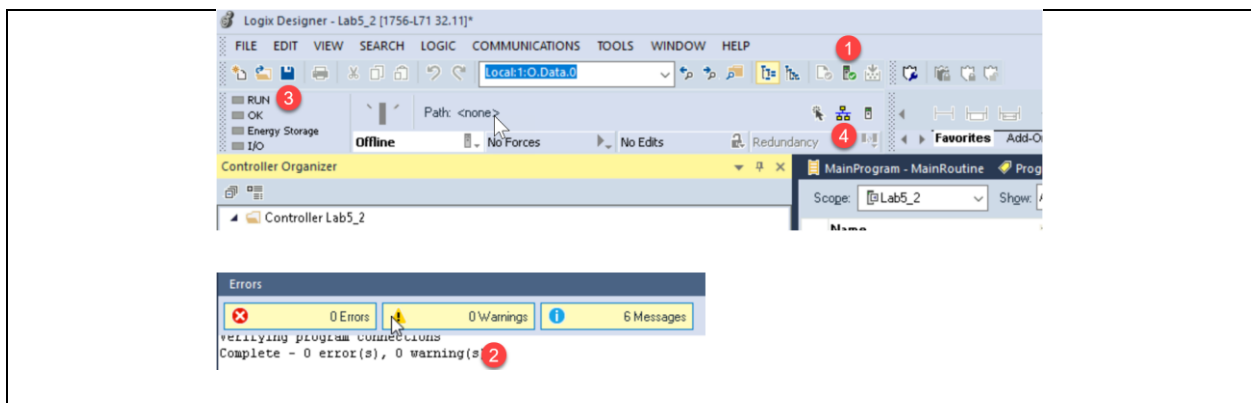

Figure 4. Verify and Save the Project.
4. **Verify and Save the Project:** Before the user downloads the project to the controller, they should do a Project Verify (#1 in Figure 4), then see if there are any errors (#2). If there are errors, the user can scroll in the Errors window. The next step is to Save the project by clicking on the disc icon (#3). Finally to do a download, the user can open the RSWho window (#4), and choose the processor to download the project to.